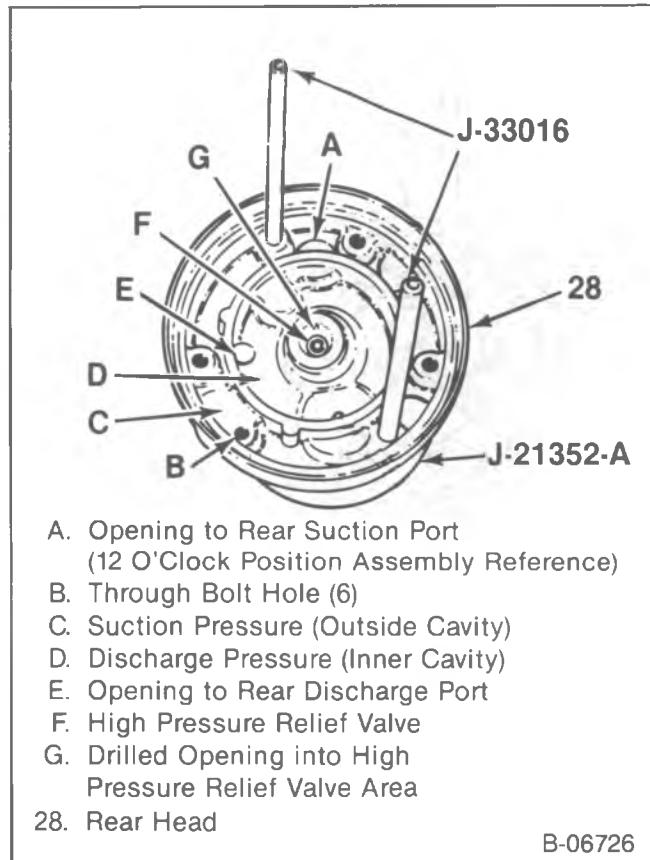

Figure 30—Positioning the J-33016 Guide Pins
- 1. Rear head (28) onto J-21352-A.
- Install J-33016 guide pins small diameter ends into the through bolt holes (figure 30).
- 2. Head gasket (27).